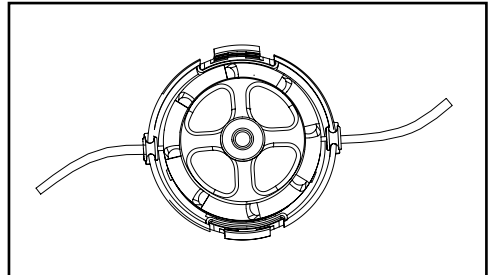

Fig. 17
4. Guide the 2 line ends into the holes on the spool housing and restore the spool cover. (Fig.17)